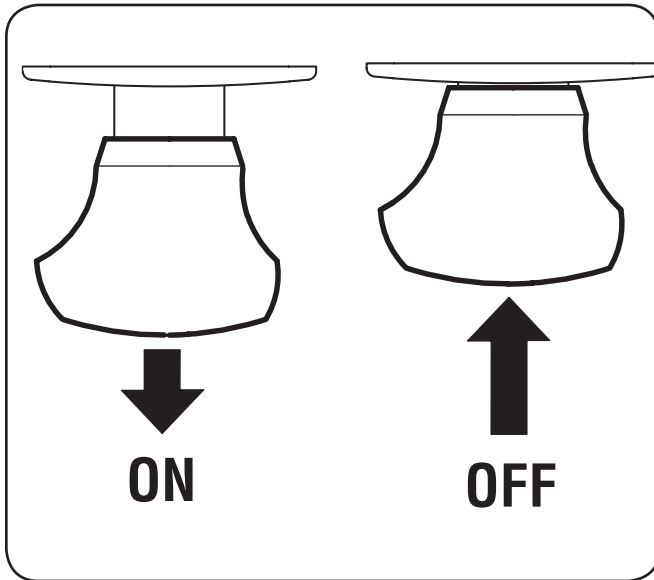

Figure 5-3
2. Pull the PTO/Blade Engage knob outward into the engaged (ON) position. See Fig. 5-3.